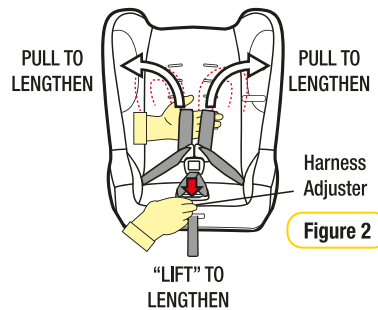

Figure 2
**Step 2:** To lengthen the harness "LIFT" the harness adjuster (refer Figure 2) whilst grasping both shoulder harness straps and pulling. Ensure shoulder straps are pulled equally on each side.